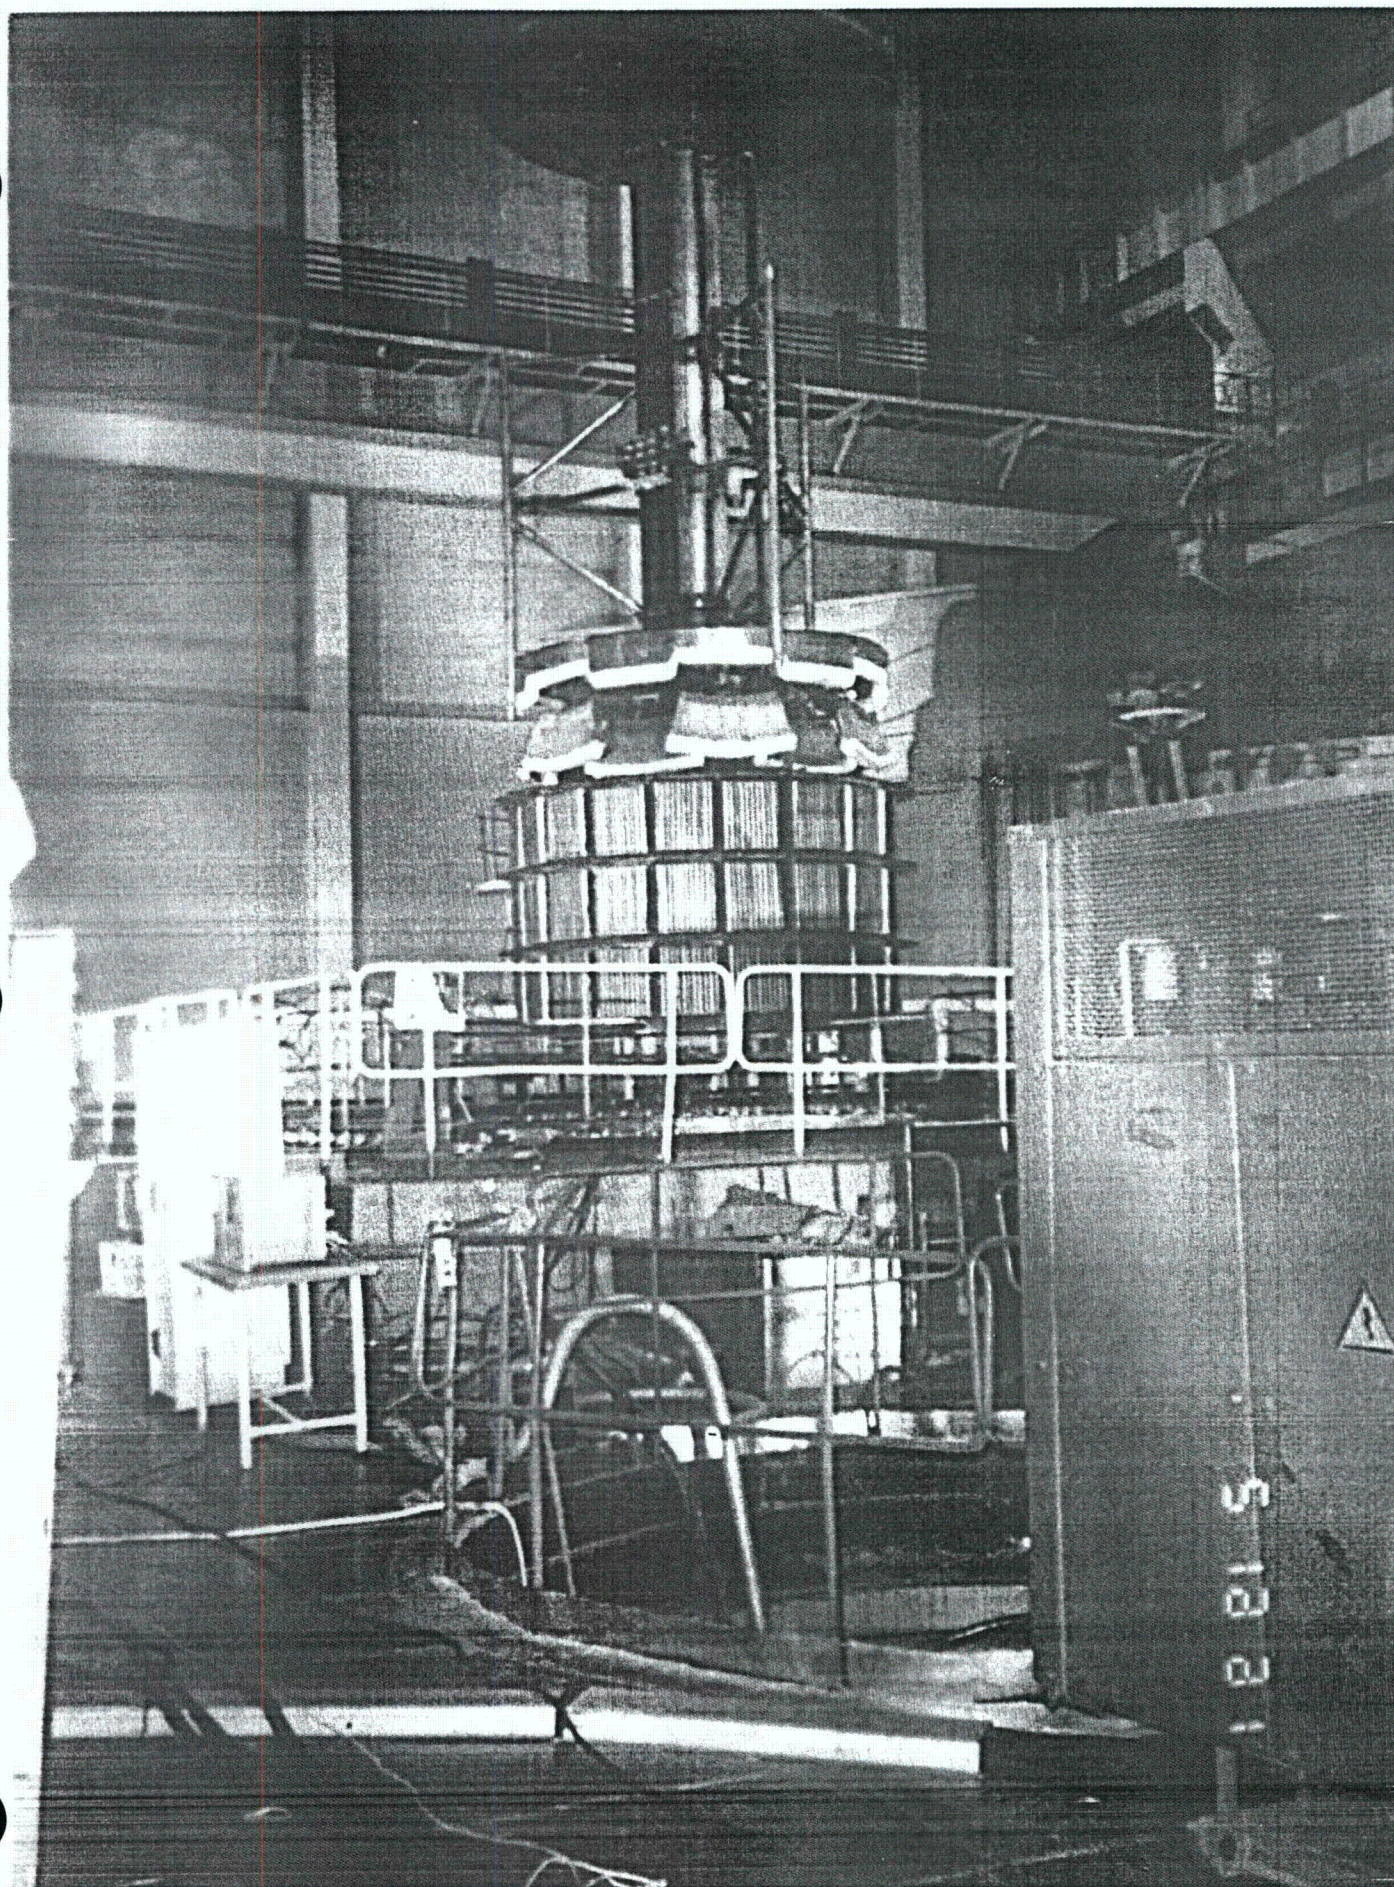

Figure 1. Annealing Furnace Being Lowered into
- Midland Annealing approach demonstrated on VVER-440 type vessels (Figure 1).